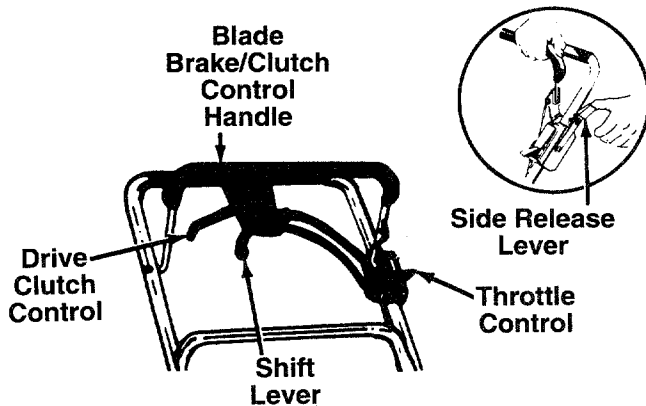

FIGURE 17.
To engage the blade, pull the side release lever away from the unit. See figure 17. Pull the blade brake/clutch control handle against the upper handle. Release side lever.
Squeezing the drive clutch control engages the drive mechanism to the rear wheels. Releasing the clutch control stops the rear wheels from driving. Release the drive clutch control to slow down when negotiating an obstacle, making a turn or stopping. See figure 17.
The six speed shift lever is located on the drive clutch control housing on the upper handle. See figure 17. This lever is used to select the operating speed of the mower. Release the drive clutch control when changing speeds.
2. To engage the blade, pull the side release lever away from the unit. Pull the blade brake/clutch control handle down against the upper handle. Release the side lever. See figure 17.